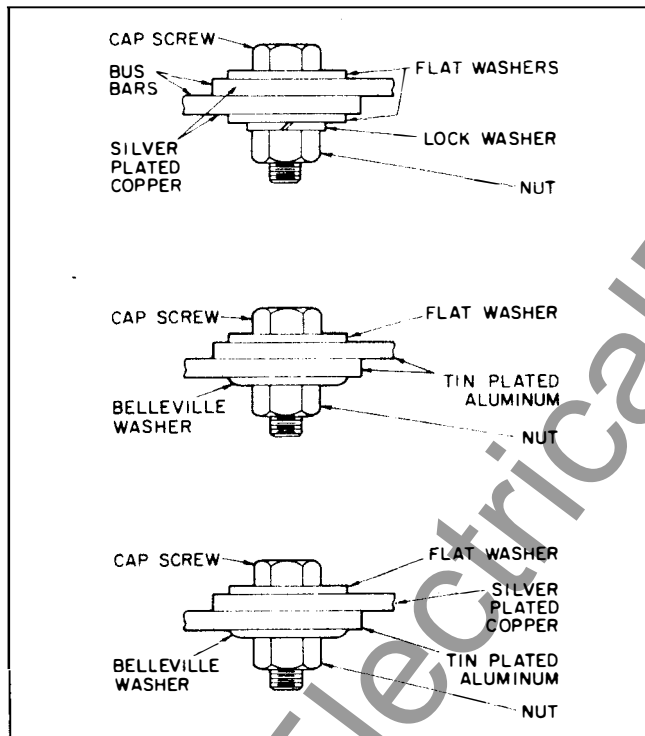

Figure 24. – Method of Bolting Bus Bar Joints
4. For method of bolting joints see figure 24.
Tighten 1/2-13 \* steel screws to within torque range of 50-75 ft. lb. (67.8 to 101.7 N·m) and silicon bronze screws to within torque range of 30-40 ft. lb. (40.7 to 54.2 N·m). Arrange the hardware as shown in figure 24 with a flat washer on each side of the joint and a lockwasher between the flat washer and the nut. The only exception to this